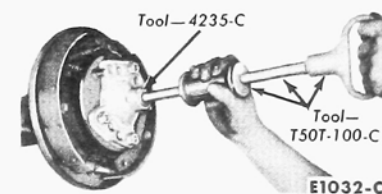

FIG. 7—Axle Shaft Removal
2. If the rear carrier plate is being remolded, rotate the axle shaft so that the hole in the axle shaft flange aligns with the carrier plate retaining nuts, then remove the nuts. Pull the axle shaft assembly out of the housing with tool 4235-C, and a slide hammer tool T50T-100-C (Fig. 7). Lift off the carrier plate.